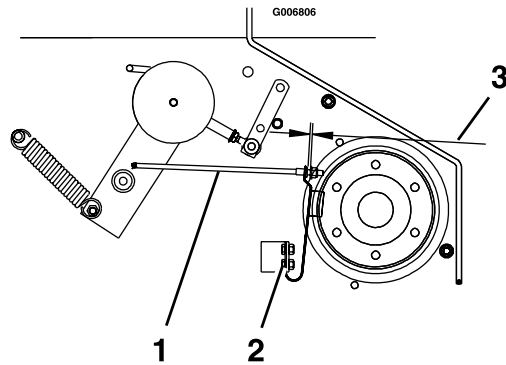

Figure 16
3. Make sure the blade brake pad rests against the sheave. Adjust the spring mounting bolts to properly align the pad on the sheave (see Figure 16).
distance should be between 1/8 inch and 3/16 inch (3–5 mm) (see Figure 16).